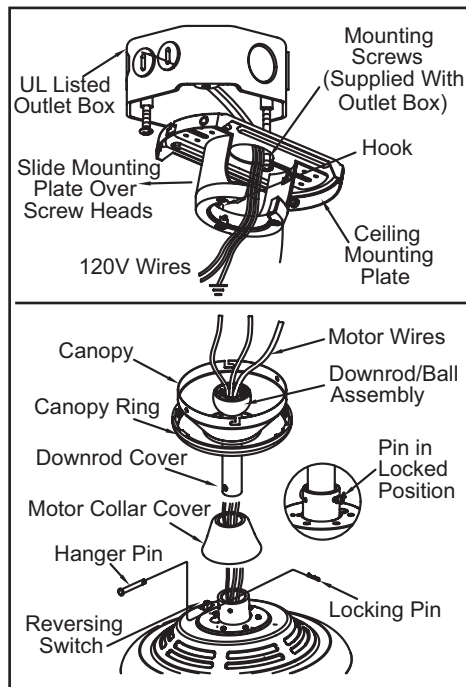

Figure 7
3. Route the wires exiting the top of the fan motor through the decorative motor collar cover then the canopy ring. Make sure the slot openings are on top. Route the wires through the canopy and then through the ball/downrod assembly (Figure 7).
5. Align the holes at the bottom of the downrod with the holes in the collar on top of the motor housing (Figure 7). Carefully insert the bolt through the holes in the collar and downrod. Be careful not to jam the bolt against the wiring inside the downrod. Insert the Clevis pin through the hole near the end of the bolt until it snaps into its locked position, as noted in the circle inset of Figure 7.
1. Pass the 120-volt supply wires through the center hole in the ceiling mounting plate as shown in Figure 7.
2. Install the ceiling mounting plate on the outlet box, by sliding the mounting plate over the two screws provided with the outlet box (Figure 7). When using close-to-ceiling mounting, it is important that the mounting plate be level. If necessary, use leveling washers (not included) between the mounting plate and the outlet box. Note that the flat side of the mounting plate is toward the outlet box (Figure 7).